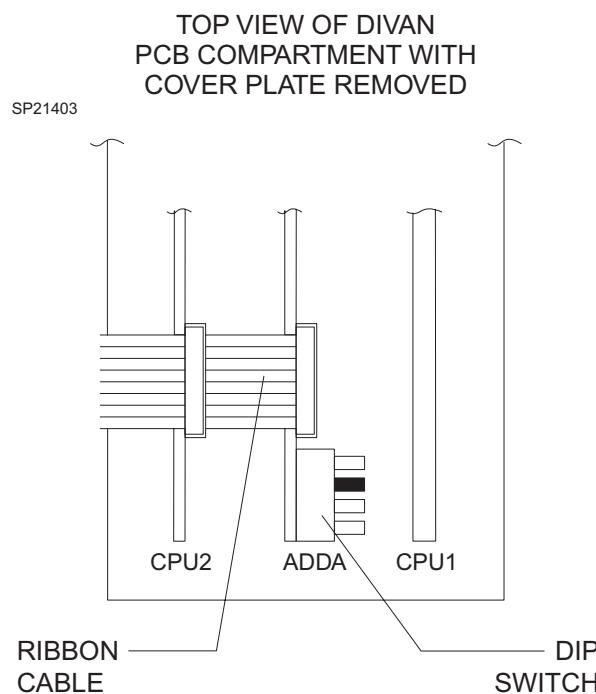

FIGURE 3. DIP Switch Locations
- 2.12 Remove the ribbon data cable from CPU2 and ADDA PCBs. Ref. Figure 3.
2.26 **Total Hours:** Using a non-conductive tool, set the third DIP switch on the ADDA PCB to the down position. See Figure 3. Turn the rotary knob to display **Total Hours**, then press the knob to confirm selection. Reenter the total hours information as follows: